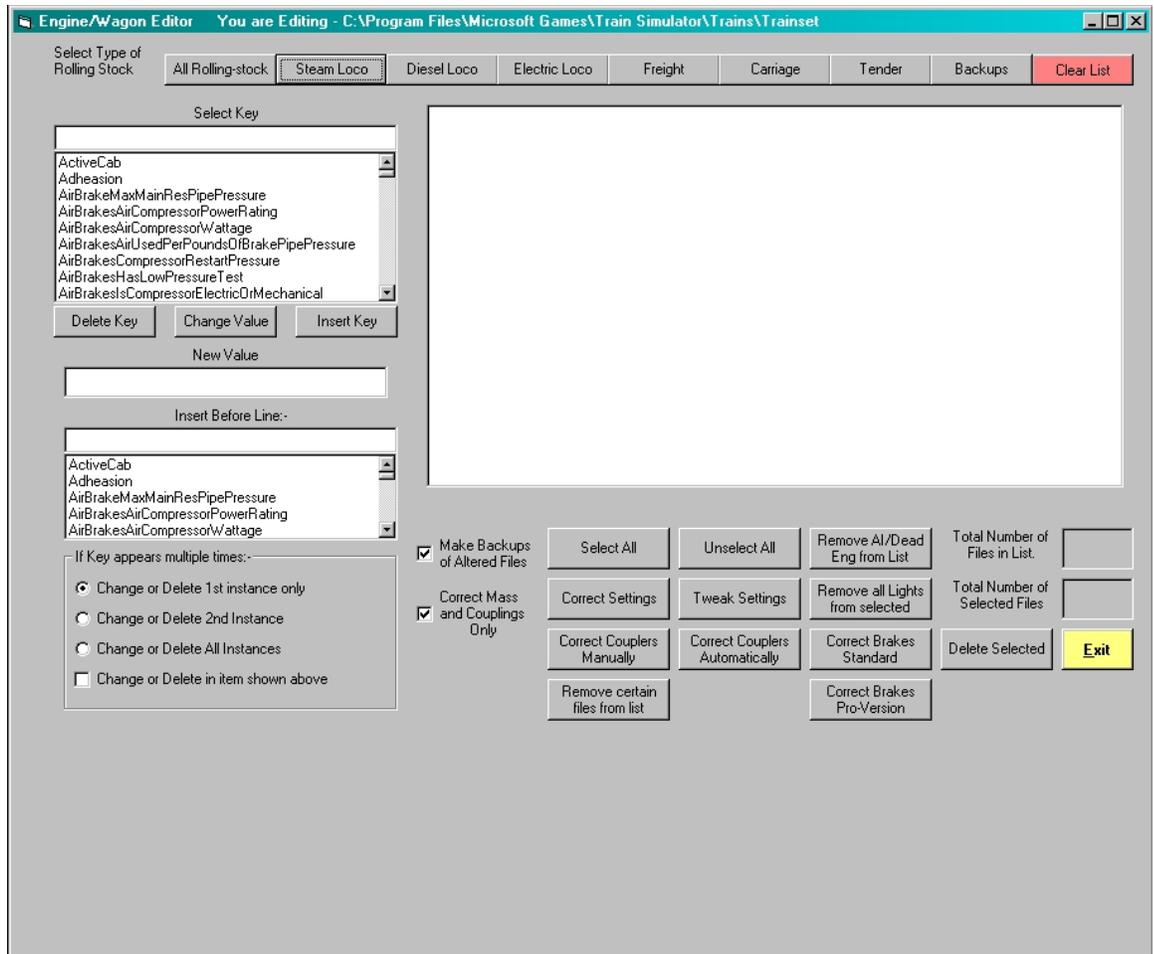

Figure 4
3. Left-click the "ENG/WAG file Editor" button. You should now see the editor as in Fig. 4.